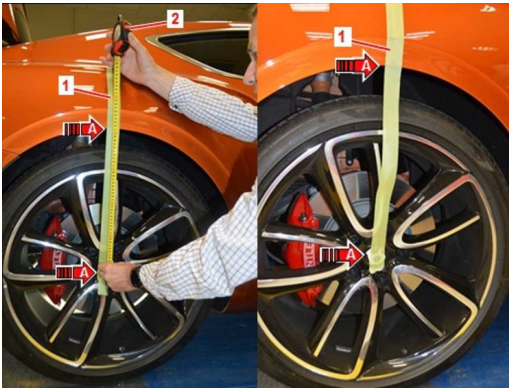

Figure 26
- Tape (1) applied before and after, showing the tape sagging. See Figure 26
- All ride height measurements (A-A) before and after. See Figure 26